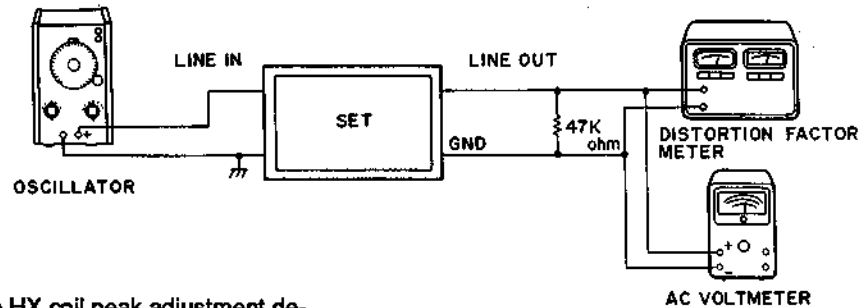

Figure 27
- (1) After having finished the HX coil peak adjustment described in Item 9, temporarily adjust VR5071 (VR5072) so that the TP5005 (TP5006) output becomes 65 mV.
- (2) Make the connections as shown in Figure 27, input 400 Hz/ 150 mV \pm 2 dB (oscillator output) to the line input, insert the metal tape (TDK AC-712) into deck B and record on it. (Set the REC LEVEL volume to the maximum.)
- (3) Adjust VR5001 (VR5002) so that the line output L (R) becomes 550 mV with a distortion of 1 to 2% when the recorded section is played back.